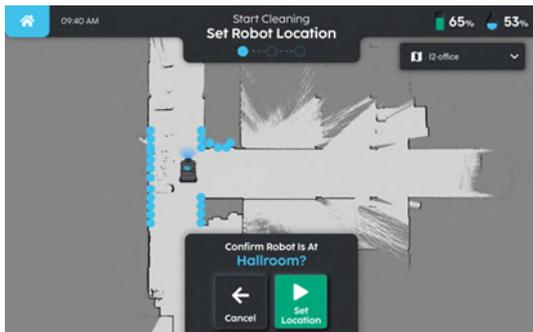

FIGURE 8-8
5. When satisfied, proceed to localise the machine with the **Set Location** button (**Fig. 8-8**).